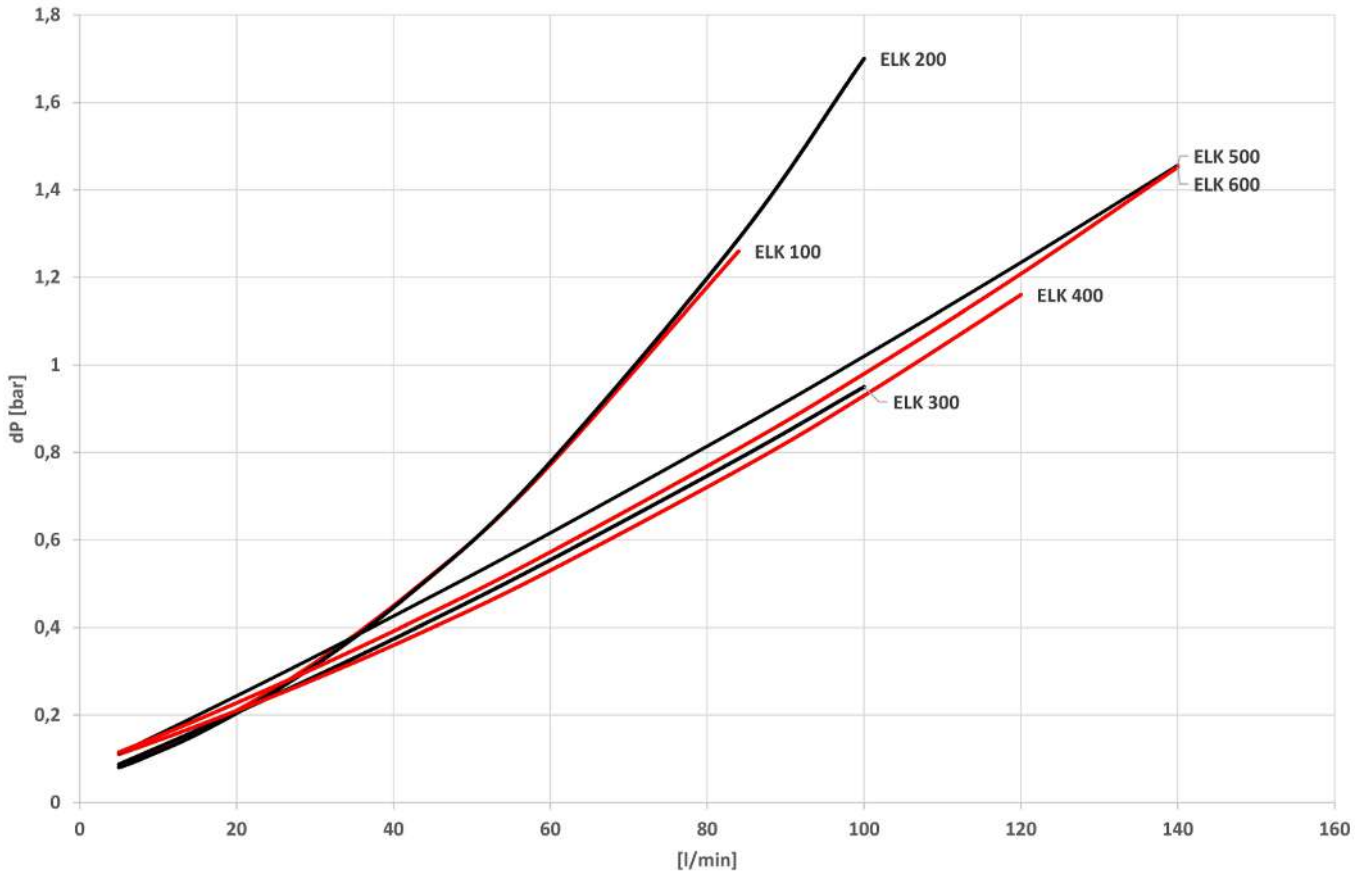

Fig. 2: Pressure loss
1. Determine Δp from the pressure loss graph (Fig. 2) for oil flow rate L/min and the selected cooler size.